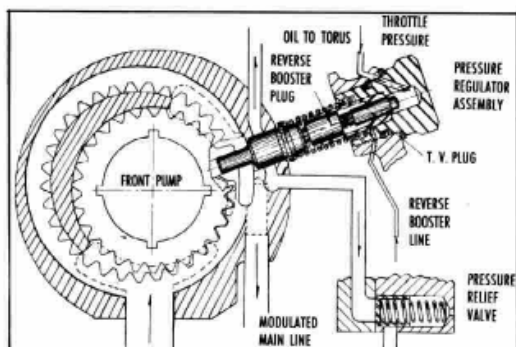

Figure 2
**NOTE:** The larger plug (reverse booster plug) is new. In reverse, oil pressure enters the hole (in the threads) of the pressure regulator plug and forces against the reverse booster plug, forcing the booster plug against the pressure regulator valve, Figure 2. The additional pressure is required to insure positive reverse clutch action. During forward operation of the car, oil is cut off at this point and the reverse booster plug acts as a spacer having no effect in the assembly.